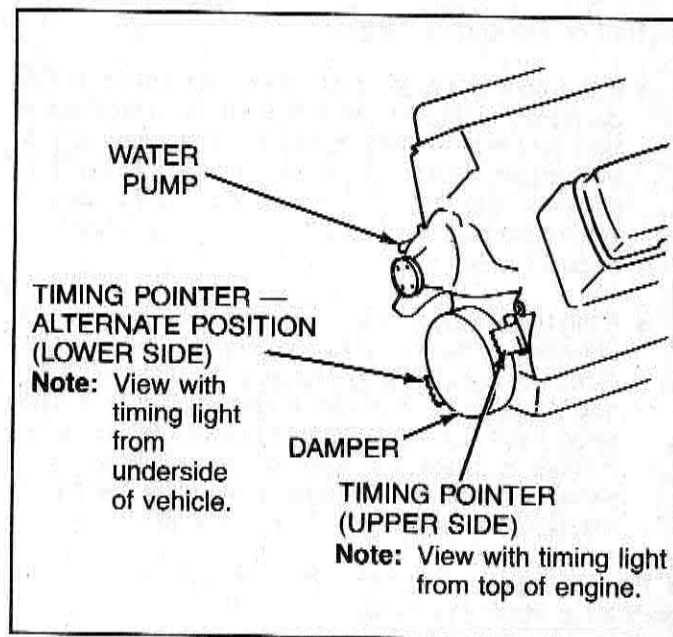

Figure 7-49 — Timing Mark — Typical
4. Start the engine and aim the timing light at the timing mark. (See Figure 7-49.) The line on the balancer or pulley will line up at the timing mark. If a change is necessary, loosen the distributor hold-down clamp bolt at the base of the distributor. While observing the mark with the timing light, slightly rotate the distributor until the line indicates the correct timing. Tighten the hold-down bolt and recheck the timing.